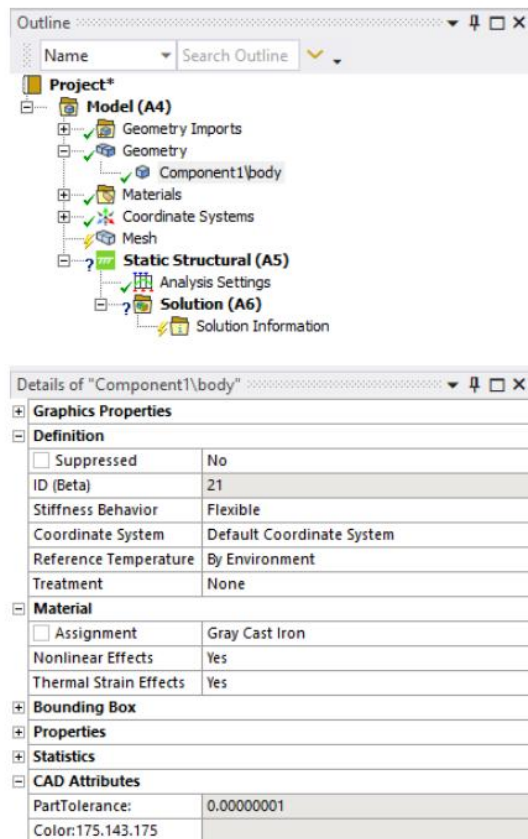

Fig. 1.4: Details of component body
- Select branch Component1\body as shown in figure 1.4